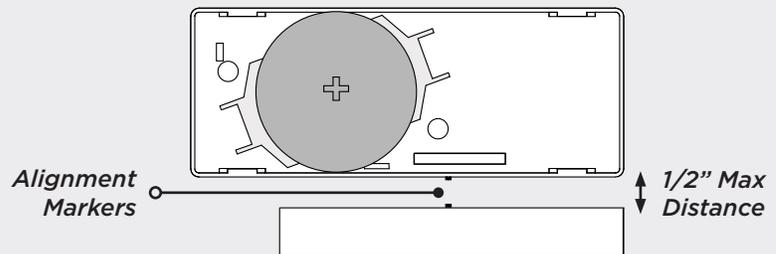

**Figure 3: Mounting Hole Locations**
2. Place the two supplied #4 flat-head screws into the mounting holes to secure the housing base to the surface. See Figure 3.
For environments where the cover could be dislodged, the optional #4 pan-head securing screw can be used instead of the center flat-head screw to secure the entire transmitter and cover to the mounting surface. See Figure 3.